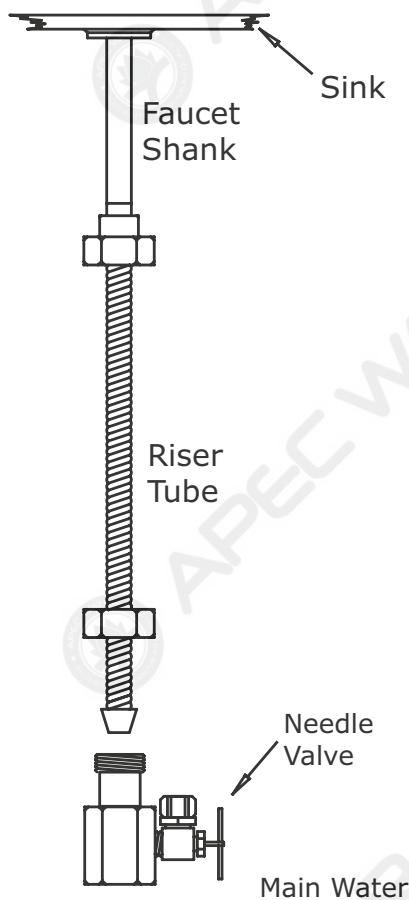

Fig. 5A
3. **Recommend Connection For Flex Line Riser:** See **Fig. 5A.** & **Fig. 5E** Loosen nut and separate cold water riser tube from shut off valve. Gently bend riser tube so that the Feed Water Adapter (**Fig. 4**) fits onto the shut off valve. Connect the riser tube, feed water adapter, and shut off valve together and **tighten.**